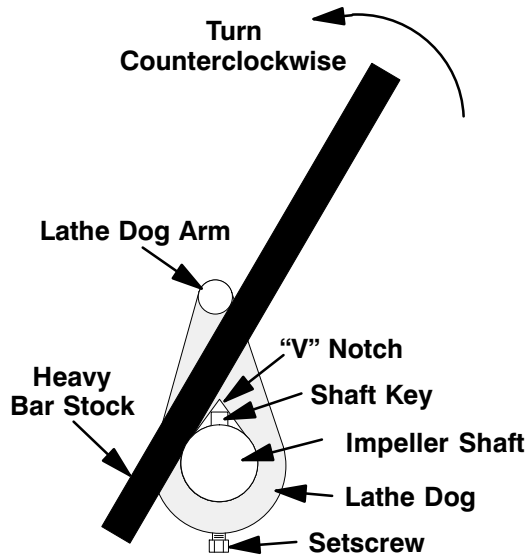

Figure E-3. Loosening Impeller
Remove the inner hardware (16 and 17) from the casing ring (14). If the removal tool is used, follow the instructions packaged with it, and pull the rotating assembly from the pump casing (see Figure E-3 for removal tool use). If the removal tool is not used, install three of the inner capscrews in the jacking holes in the casing ring, and use them to press the rotating assembly into the pump casing until the bearing housing is free.